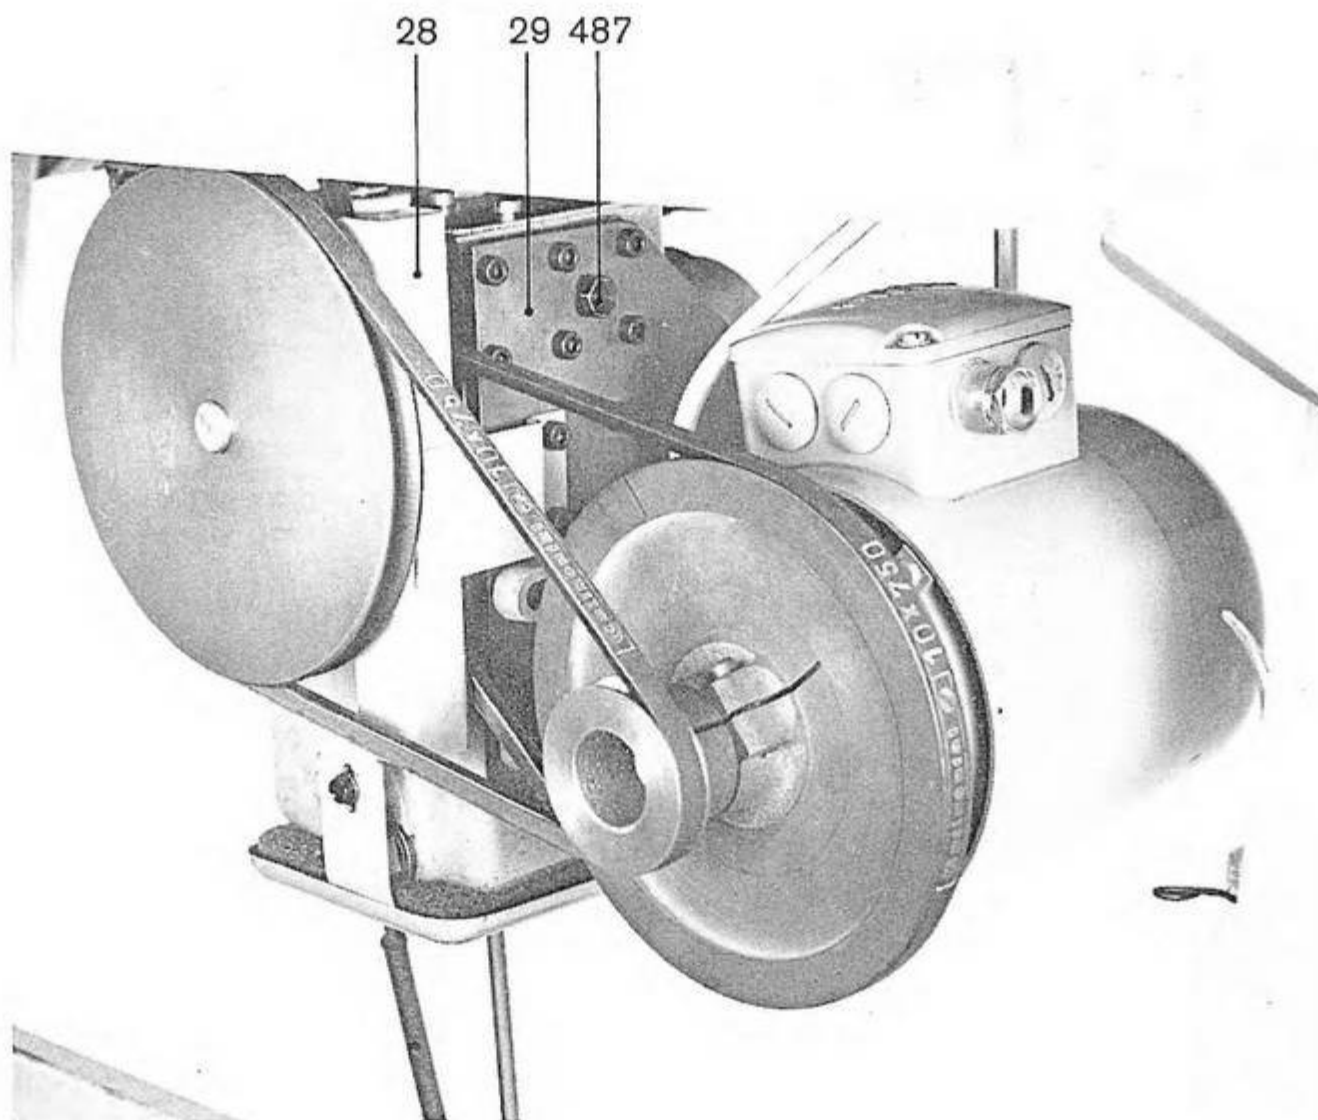

Fig. 11
11. Mount the belt guard 28 on the cover plate 29 as shown in fig. 11.